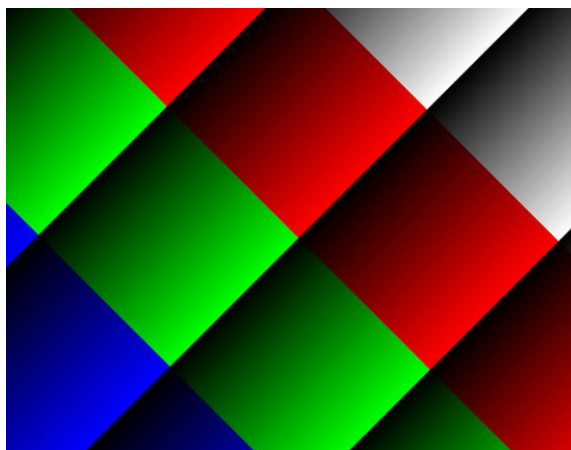

Figure 17 – Diagonal color pattern
3. Diagonal color ramp – diagonal gradient of several color stripes as shown in Figure 17.